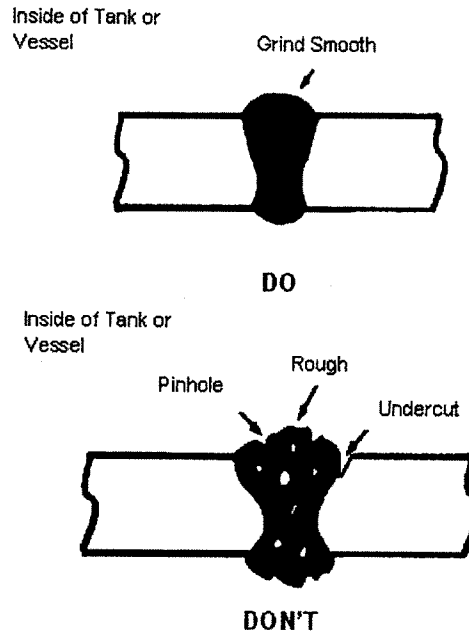

FIGURE A2
5.3 All rough welds shall be ground to remove sharp edges and other such irregularities (see Figure A2, Appendix A). Chipping may be used to remove sharp edges if followed by grinding. See Appendix C for written and graphic descriptions of five degrees of surface finishing of welds that may be specified preparatory to the lining of tanks and vessels.